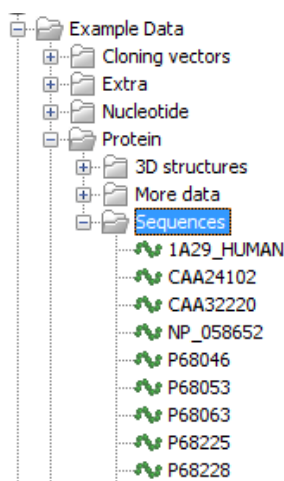

Figure 6.1: A folder hierarchy as seen through a CLC Workbench Navigation Area.
**Note:** To access a folder and its contents, a user must be a member of a group with read access to all the folders above it in the hierarchy. In the example shown in figure 6.1, to access the *Sequences* folder, the group must have access to both the *Example Data* and *Protein* folders.
It is fine to give write access to just the final folder in a hierarchy. For example, in the hierarchy shown in figure 6.1, read access could be granted to the *Example Data* and *Protein* folders, with